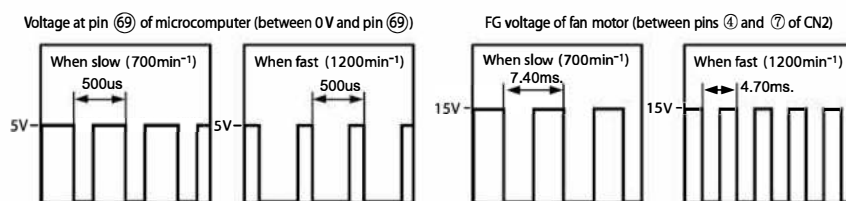

Fig. 3-2
- * The VS receives a command voltage from the microcomputer. The VS terminal undergoes an analog voltage that matches the Lo level time ratio of the pulse signal from pin ⑥ of the microcomputer. (See Fig. 3-2.)